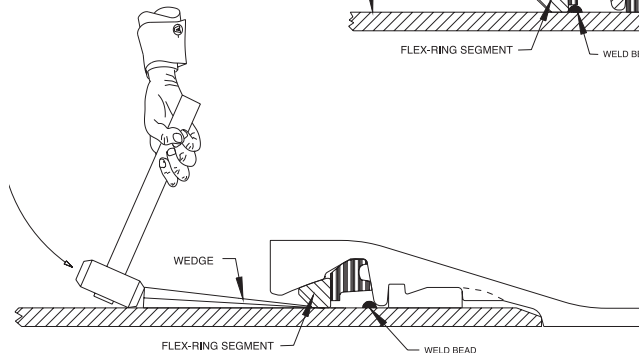

Figure 4
2. Hammer a starter wedge under a yellow locking segment until an approximately 1/8" gap is seen between the segment and the spigot. (Fig. 4)